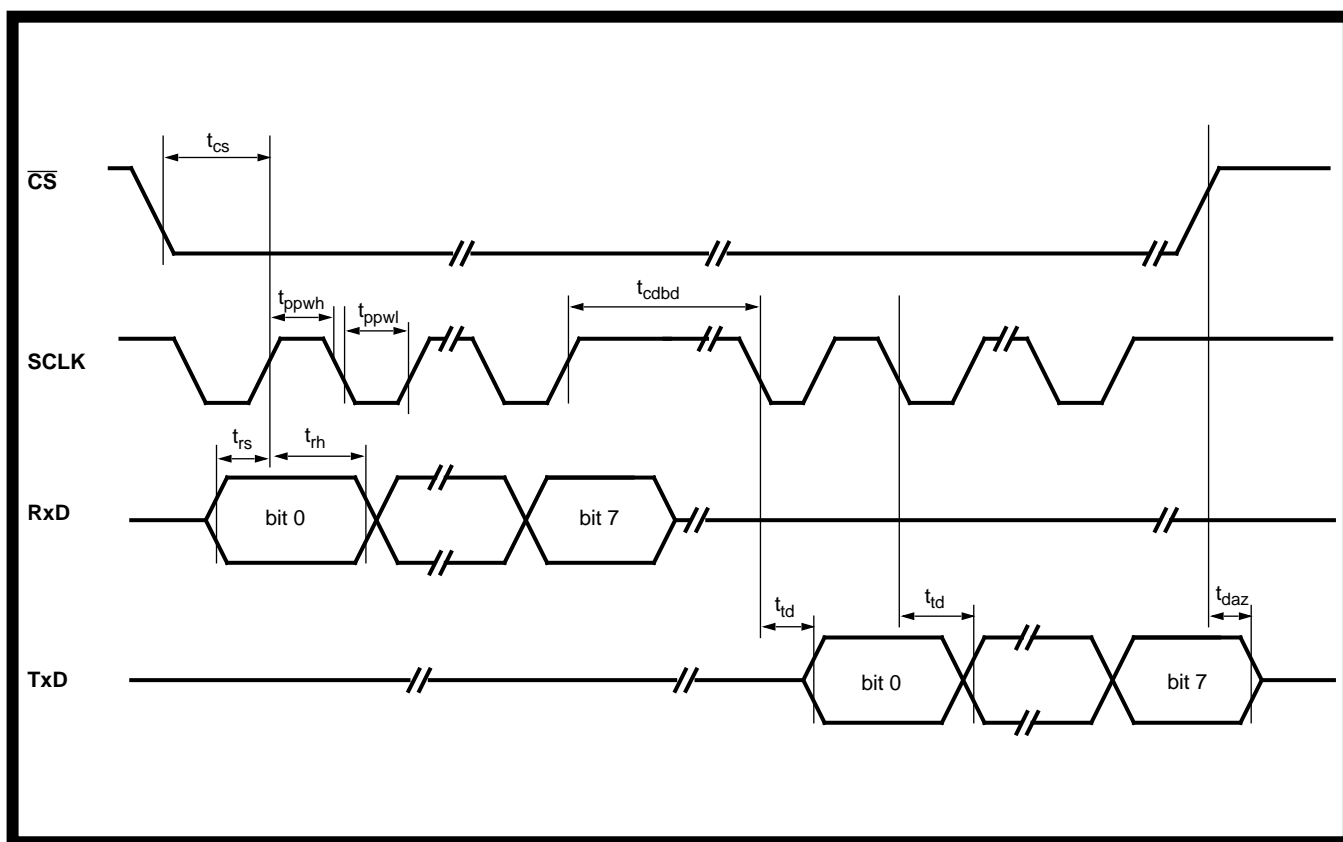

Figure 12 - Serial Microport Timing
**AC Electrical Characteristics† - Serial Microport (see Figure 12)** - Voltages are with respect to ground ( $V_{SS}$ ) unless otherwise stated.